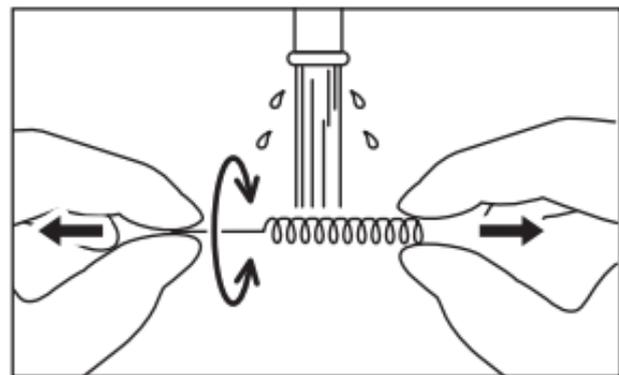

Fig. 19
- 4) After using the cleaning wire, clean the wire by pulling both ends of it with fingers while running water all around the wire for 15 seconds or more (Fig. 19).